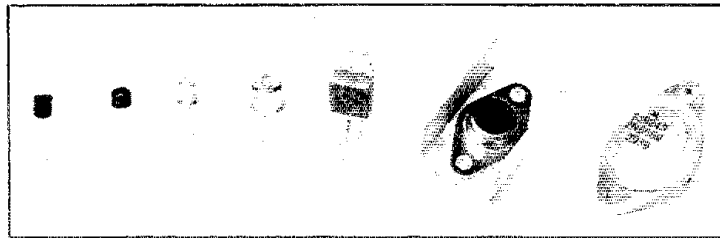

Fig. 1 — Left to right are low-power, medium-power and high-power transistors. There are many case styles for transistors.
□ Combining the MC145445 modem IC with a Motorola MC145440 filter IC provides you with the major components to make up a 300-baud Bell 103 modem. By tying pin 18 (TYPE) low and substituting an MC145441 filter IC for the '440, a CCITT V.21 modem may be constructed. Fig. 1 is a schematic diagram of a typical modem, taken from the Motorola data sheet.
A transistor is an active semiconductor with three or more terminals. The name was derived from "transresistor" for "transfer resistor." It is made from silicon or germanium crystals that are usually formed into a junction or sandwich, as are the diodes we discussed last month in *QST*. The main difference is that a transistor has three elements (emitter, base and collector), whereas the diode has only a cathode and anode. The transistor can amplify signal current, but the diode cannot. Also, a transistor requires an operating voltage (it is an active device) for it to amplify. A diode, on the other hand, is a passive device; it does not need an operating voltage to make it rectify or clamp. It does, however, need an applied voltage if it is to perform a task for us. Junction transistors are commonly referred to as "bipolar transistors," sometimes abbreviated BJT (bipolar junction transistor). Fig. 1 illustrates a variety of styles and sizes of bipolar transistors. How does a transistor compare to a tube